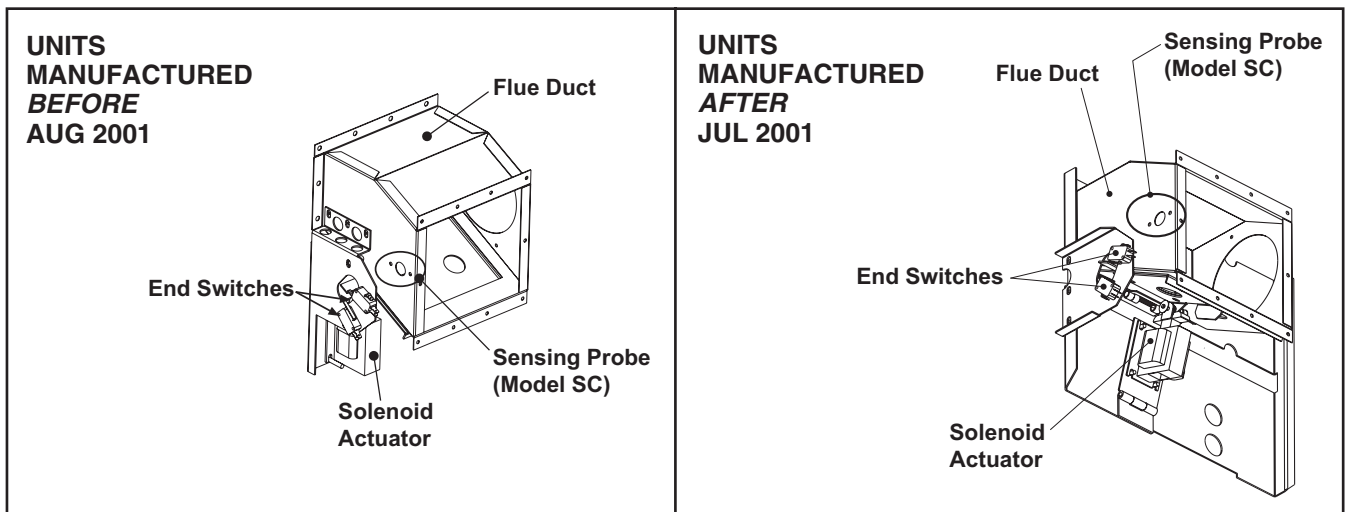

Figure 3. Existing Flue Duct and Damper Assembly
4. Remove existing flue duct and damper assembly with solenoid actuator (see Figure 3):